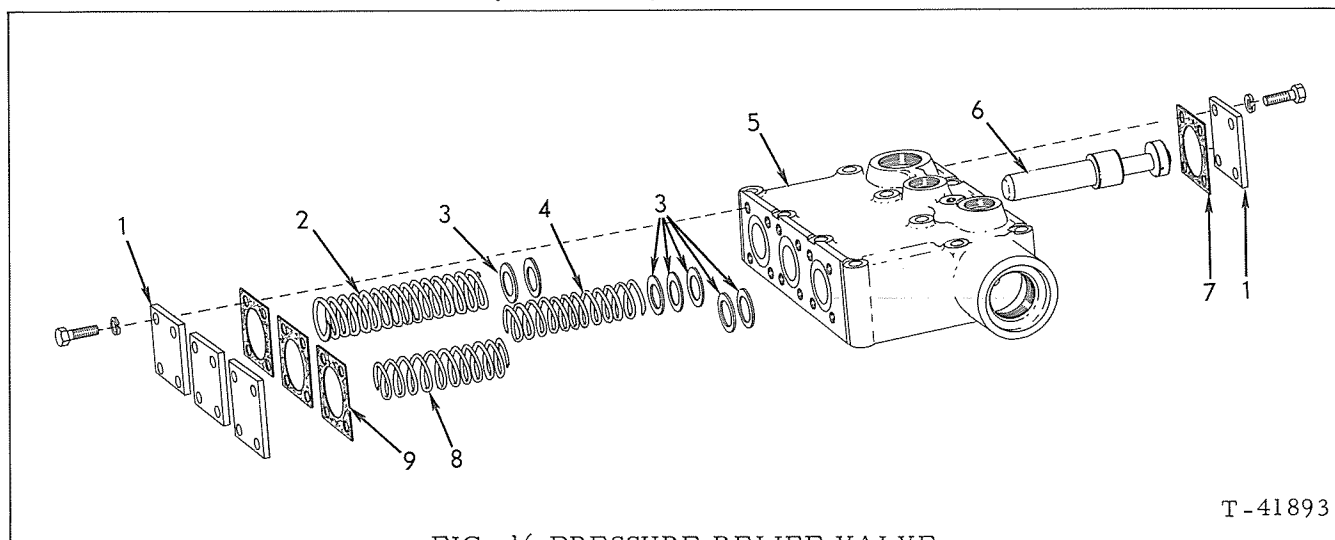

FIG. 16 PRESSURE RELIEF VALVE
- e. Refer to Fig. 16; remove opposing covers (1) from each side of valve housing; push valve spring and valve spool from bore in housing, Fig. 15. Identify valve spring and spool so they will be reinstalled in their original positions. Tie any washers, Fig. 16 (3) to the spring to prevent loss. Repeat this procedure for the remaining two relief valves.
NOTE: Flat washers, Fig. 16 (3) are .109" (2.77 mm) thick. At least one washer is required beneath each spring (spool end); adding an additional washer will raise pressure.
- b. Refer to Fig. 16, install spools (6)
- c. Turn valve housing so open side is facing up. Install necessary washers, Fig. 16 (3) on valve spools (at least one washer must be installed on each spool).
- d. Install valve springs in their proper positions; compress springs and install covers (1) with gaskets (9).